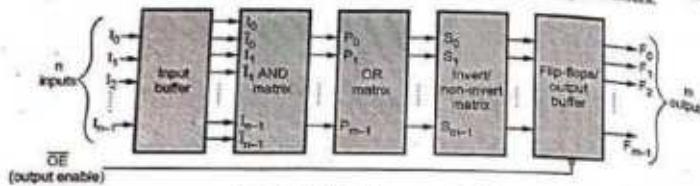

Fig. 7.13.1 Block diagram of a PLA
- Fig. 7.13.1 shows the block diagram of PLA. It consists of  $n$ -inputs, output buffer with  $m$  outputs,  $m$  product terms,  $m$  sum terms, input and output buffers.